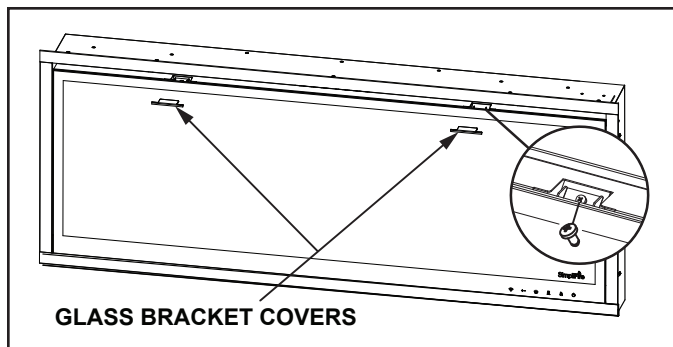

Figure 1 Glass Attachment
1. Remove the two (2) glass bracket covers.
2. Remove the two (2) ST4x8 screws that attach the front glass to the appliance. See Figure 1.